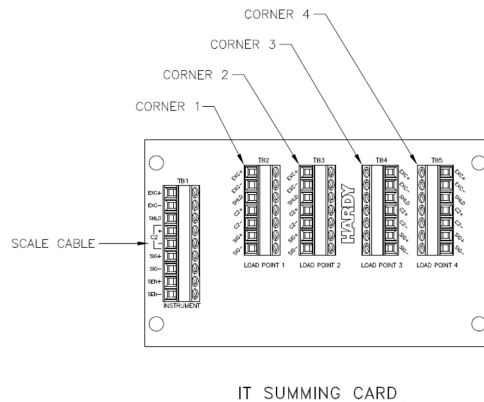

FIG. 4 SUMMING CARD
2. **Junction Box Chassis** - The HI 6011 Summing Card box comes pre-configured with the load cells installed and the box sealed. It is not normally required to open the Junction Box Chassis for any reason. If for some reason you need to access the inside of the box, unfasten the face plate on the center side of the platform. (See Fig.4) The summing junction card routes the excitation voltage to each of the four load sensors and sums the weight signal back from them. Hardy C2[®] electronic calibration is included with your scale.